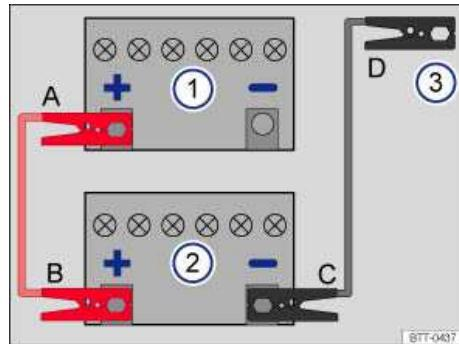

Fig. 211 Diagram for attaching the jumper cables: Dead battery 1 and booster battery 2.
⇒ fig. 211 A – B – C – D.
3. Attach one end of the *red* jumper cable to the **positive terminal** (+) of the dead battery (1) ⇒ .
4. Attach the other end of the *red* jumper cable to the **positive terminal** (+) of the good battery (booster battery) (2).
Battery (2) ⇒ fig. 211.
6. Attach the other end of the *black* jumper cable (3) to a **bare metal part of the vehicle with the dead battery**. This part should be connected directly to the engine block. You may also attach the cable to the engine block itself. Attach the clamp to a point that is as far away as possible from the dead battery (1) ⇒ .